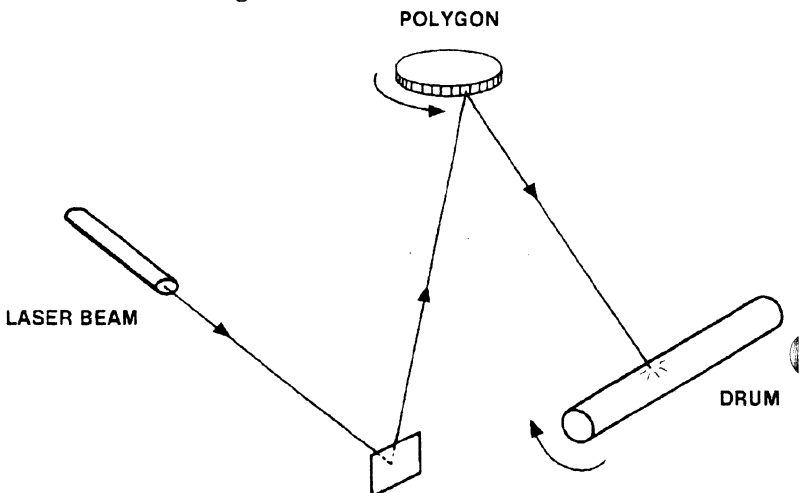

Figure 1-5 Scanning mechanism
2. Each bit in the video data causes the laser to illuminate or not, depending on its value (1 or 0). The beam hits a rotating, multi-faceted polygon and bounces off the polygon toward the xerographic drum. The rotation of the polygon moves the beam across the surface of the xerographic drum. This mechanism is diagrammed in Fig. 1-5.